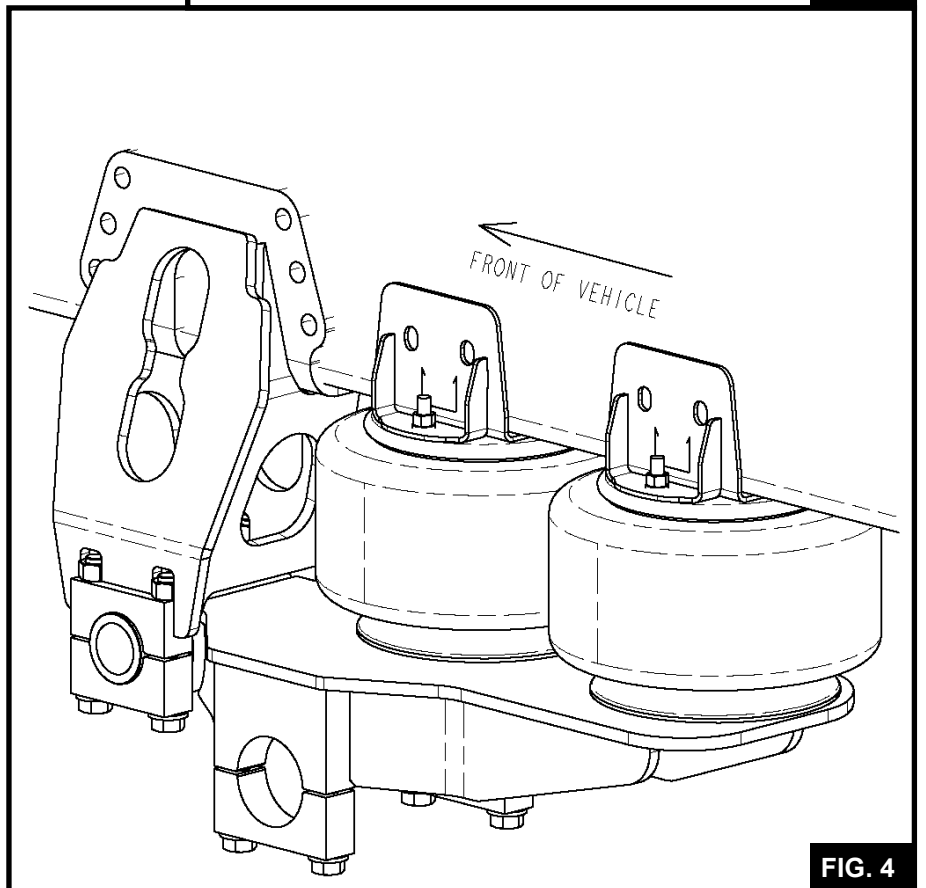

FIG. 4
**5.5** Repeat steps 1 through 4 to each of the four air springs (See FIG. 4). Secure into the suspension.